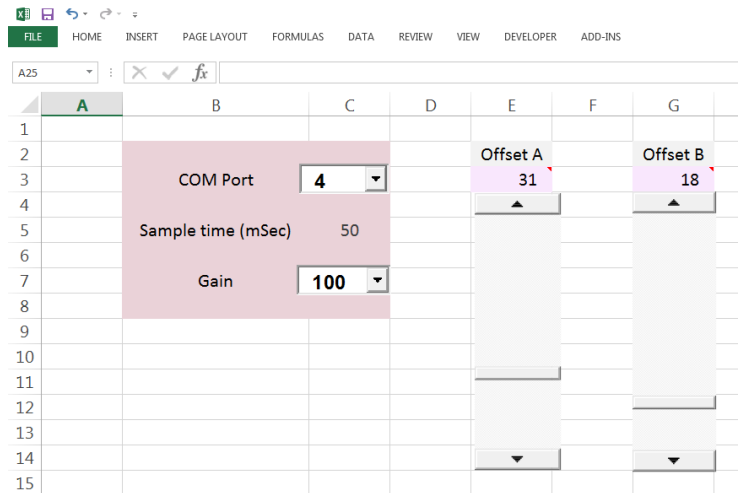

Fig. 5. Worksheet utilized to establish communication, gain and offset to data logger.
4. Set communication ports. The COM port used by the microcontroller and spreadsheet need to be the same. In *Excel*, under the spreadsheet tab labelled “Parameters” change the COM port value as appropriate. The COM port value must be between 1–4. In the *Windows Device Manager*, set the COM port to the appropriate value (see Fig. 5).
Scale Adjustment. If appropriate, adjust instrument attenuation and zero offset until the full scale is observed on the *Excel* spreadsheet. Both the attenuation and offsets can also be controlled by the data logger. On the *Parameter* tab of the spreadsheet template (see Fig. 5), a pulldown menu allows the user to control the gain. If necessary, the data logger offsets are also adjusted with sliders. These sliders change the applied voltages to the offsets (see labelled circuit). The offsets are likely to depend on the condition of the detector filaments.